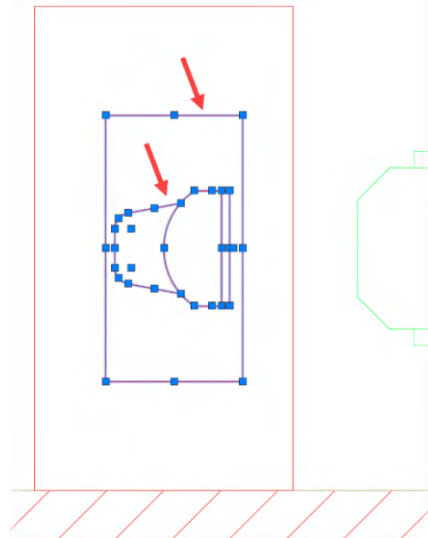

Figure 10.3: The AutoCAD objects selected after exploding the blocks
2. These objects are shown selected in *Figure 10.3*. Make sure you have all four lines, and the screen block selected as shown (the blue grips will be displayed).